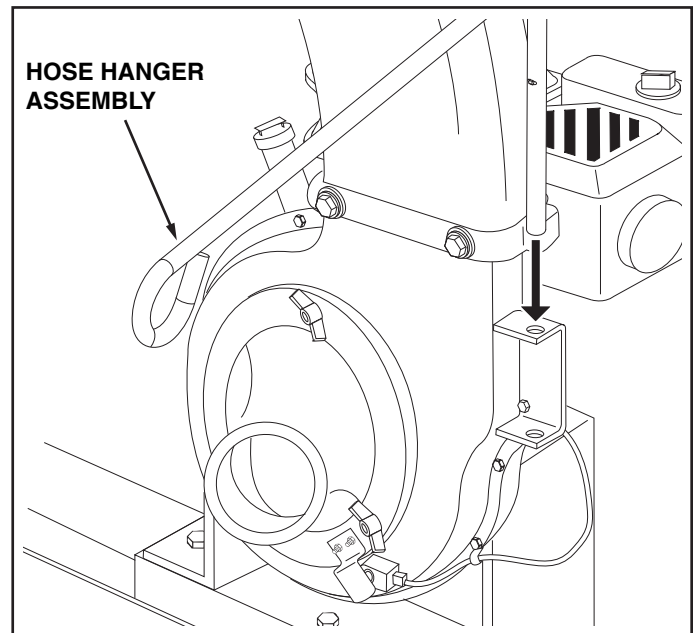

FIGURE 15
25. Place the hose hanger rod assembly down into the hose hanger bracket on the impeller housing assembly. See figure 15.